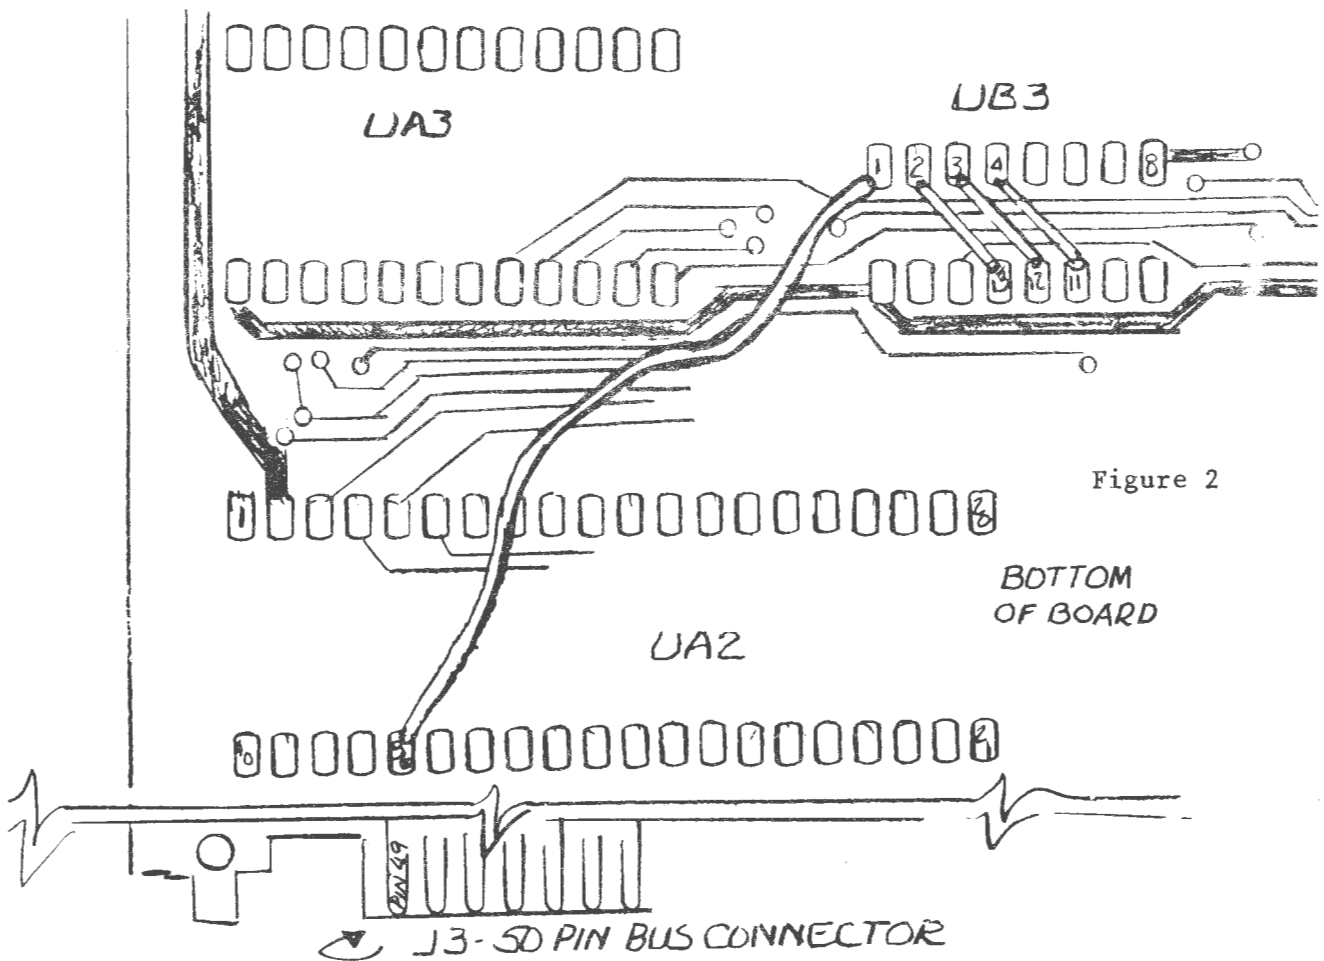

Figure 2
(5) Turn the logic board upside down and locate the socket pins for UB3. Using four lengths of insulated jumper wire, make the following connections (see Figure 2):
(6) Turn the logic board rightside up. Plug the RAM board into connectors J9. The end with the small parts goes to the rear (edge card connector end) of the logic board. Support the logic board from the bottom to keep it from flexing during this step.